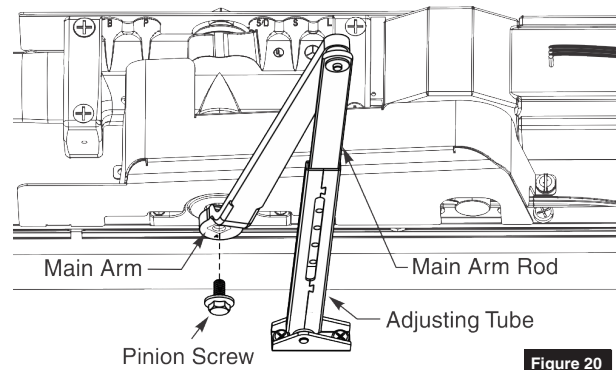

Figure 20
- With door open, slide main arm rod into adjusting tube. (Figure 20)
- Place square of main arm onto closer pinion. (Figure 20)
- Attach main arm to pinion with screw then tighten with 7/16" wrench. (Figure 20)